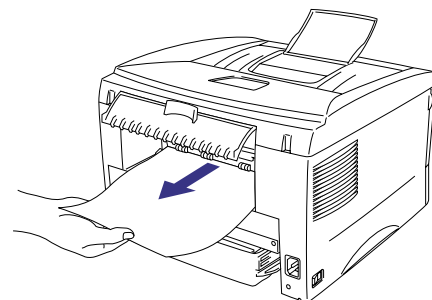

Fig. 6-4
- (5) Open the rear cover and pull the jammed paper out of the fixing unit. If you have to pull the paper towards the back of the printer, the fuser may get dirty with toner powder and may result in toner scatter on the next printed page or pages. Print a few copies of the test page until the toner scatter on the printed pages stops. (Fig. 6-4)
- (6) Close the rear cover.
- (7) Install the drum unit assembly and close the front cover.